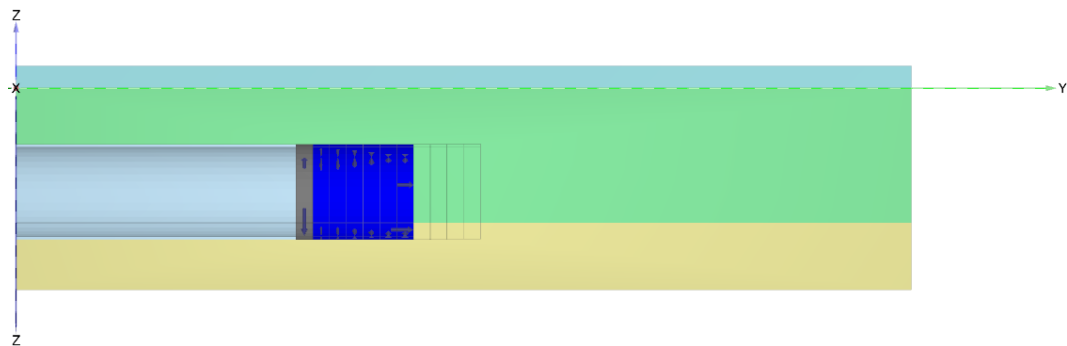

Figure 5-26: Advancement tunnel after the first 25m
2. In the **Model explorer** expand *Tunnels* and then expand *Tunnel_1*. Scroll down until the option **Advancement step** and set it to 7 in order to simulate the advancement of the first 25 m. Notice that the final lining is automatically activated (see Figure 5-26 \(p. 106\)).